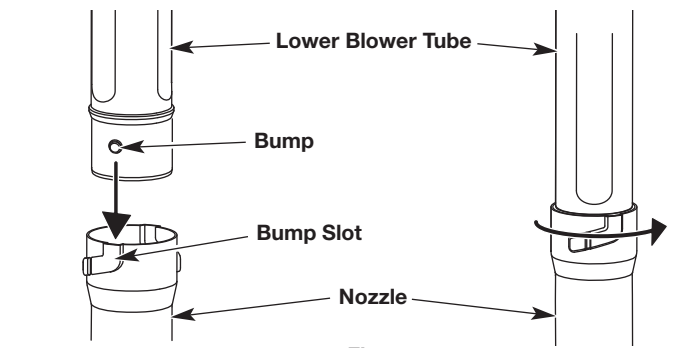

Fig. 4
1. Align the bump on the lower blower tube with the bump slot on the nozzle (Fig. 4).
2. Insert the lower blower tube into the nozzle (Fig. 4).
3. While holding the lower blower tube, twist the nozzle clockwise until it locks into place (Fig. 4).